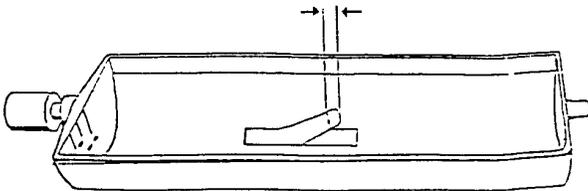

Figure 3
- B.) Measure 1/2" (12.7 mm) from the end of the retainer and mark. (See figure 3 below.)
- B.) Measure 1/2" (12.7 mm) from the end of the retainer and mark. (See figure 3 above.)